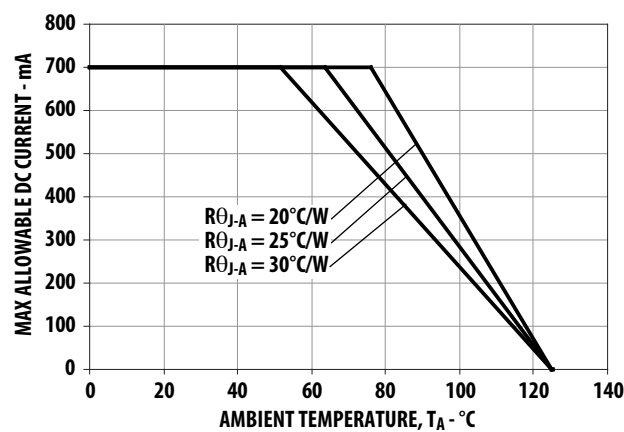
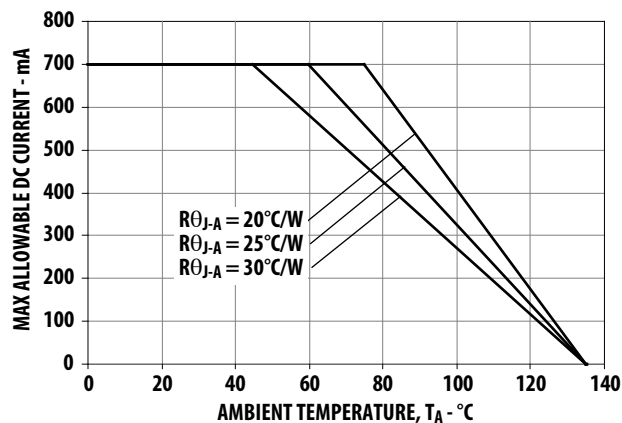

Figure 10. Maximum Forward Current vs. Ambient Temperature.
Figure 20. Maximum Forward Current vs. Ambient Temperature.
1. Derate linearly based on Figure 10 for AlInGaP and Figure 20 for InGaN.